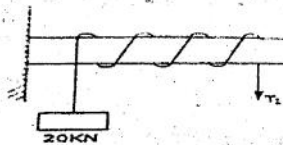

Figure -9.
10. (a) The mean radius of the screw of a square threaded screw jack is 25 mm. The pitch of thread is 7.5 mm. If the co-efficient of friction is 0.12, what effort applied at the end of lever 60 cm length is needed to raise a weight of 2 kN? (8)
- (b) A rope is wrapped three times around a rod as shown in figure- 9. Determine the force required on the free end of the rope to support a load of 20 kN weight. The co-efficient of friction between the rope and rod is 0.30. (7)